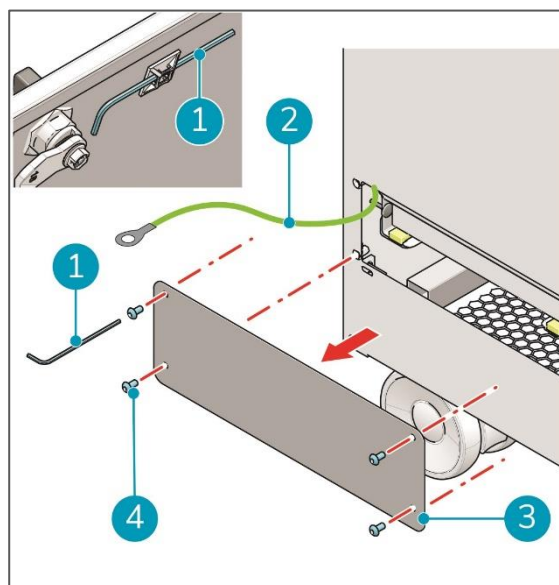

Figure 17
1. Unscrew the Allen screws (4x - Figure 17, pos.4) of the pre-filter compartment panel (Figure 17, pos. 3) with the provided 2.5mm Allen wrench (Figure 17, pos.1)
2. Remove the compartment panel (Figure 17, pos.3).
NOTE: There is a ground wire (Figure 17, pos. 2) connecting the compartment panel and the main ICon Pro unit. **DO NOT** disconnect it from the main ICon Pro unit.
10. **NOTE:** Make sure that the ground wire (Figure 17, pos. 2) is always connected to the compartment panel. If needed attach again.